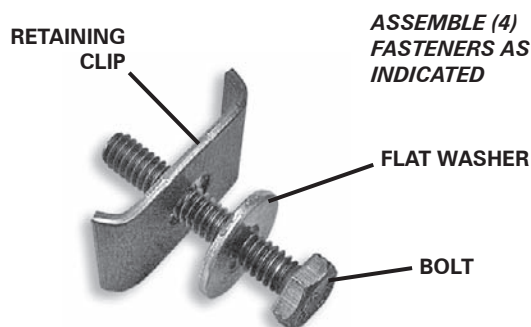

FIGURE 8
- b. Install (1) flat washer, (1) retaining clip on (4) mattress retainer bolts (**FIGURE 8**).